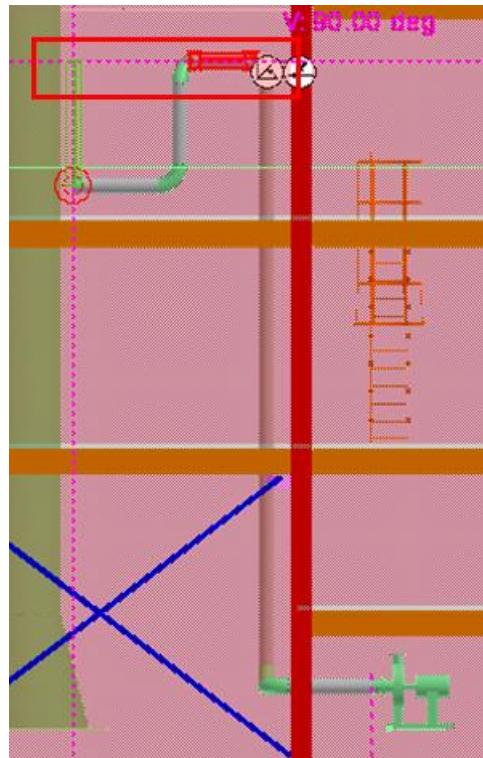

Figure 3.24: Using The Pipe Straight Feature to Find the Intersection Point
34. Now, you will route the next segment of the pipe upwards. Use the **Pipe Straight Feature** highlighted in Figure 3.24 to find the intersection point.